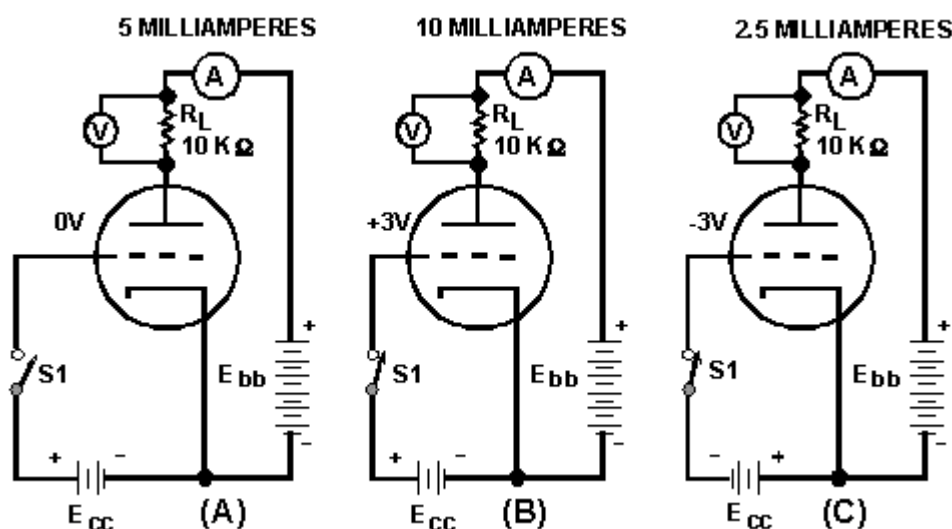

Figure 1-16.—Operation of the plate load resistor.
In other words, run the plate current variation (caused by the voltage on the grid) through a resistor, and cause a varying voltage drop across the resistor. This is shown in figure 1-16.
In view (A) of figure 1-16, the control grid is at 0 volts. Once again 5 milliamperes flow in the plate circuit. Now, the 5 milliamperes must flow through  $R_L$ . The voltage drop is equal to: